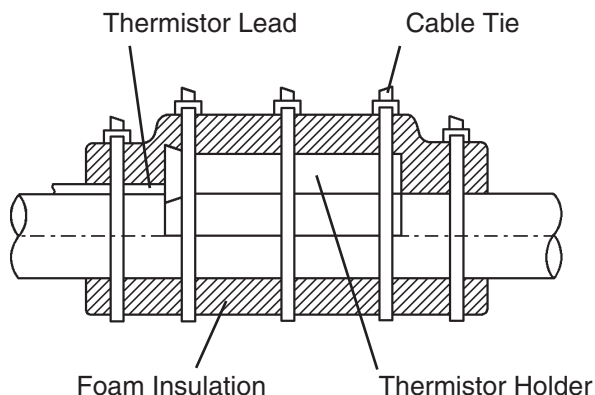

Fig. 2
- 5) Remove the plastic cable ties, foam insulation, thermistor holder, and thermistor. See Fig. 2.